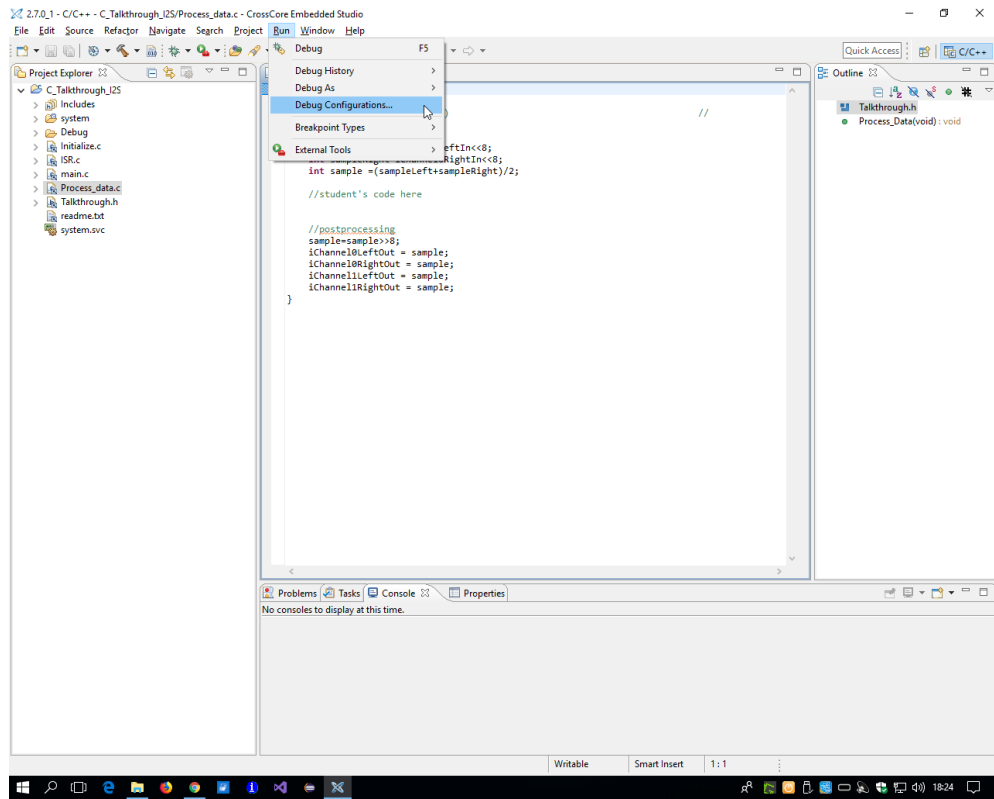

Figure 12 Configuring the debugging environment
5. Select the menu: **Run->Debug configurations** (Figure 12)